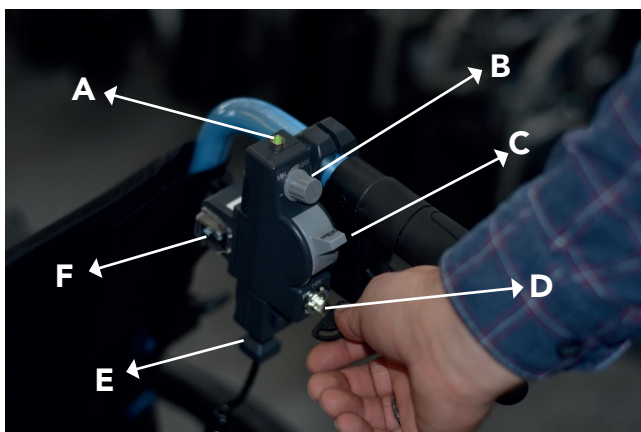

Fig 5
10. The next item to fit is the handlebar control (Fig 5). This unit performs many functions in addition to controlling the motor.
13. To fit the extended handlebar grips, remove both handlebar grips from your wheelchair. These are probably glued on, so the best way of removal is to carefully cut the grip down one side with a sharp knife and peel off. Taking each new handlebar grip in turn, remove the rubber end caps and engage the long 4mm allen key T bar into the expander bolt located approximately half way down the inside of the new handlebar grip. Looking in the other end of the handlebar grip, you will see an expanding bolt, which is the retainer for locking the new handlebar grip onto the wheelchair handlebar. With the allen key T bar, unscrew the expander bolt so that the four expanding arms are unexpanded and flush with the internal barrel (until approximately a quarter of the bolt thread is left in the internal barrel). You may need to hold your finger on the barrel while this is taking place to prevent it turning. Keep the allen key T bar located in the expander bolt, as this makes fitting easier and now slide the new grip fitted with the control onto the right-hand wheelchair handlebar (Fig 5). The new grips are obviously longer than the ones removed and this enables the original handlebars to be extended. This is sometimes useful when fitting the Powerpack to give more clearance for your feet. Now tighten the expander bolt as much as you can using the long allen key T bar. The control unit should now be in a vertical location. Repeat for the other handlebar grip. Please note: to ensure a positive fitting, at least 7.5 cm (3 inches) of the wheelchair handlebar must be covered by the new grip.